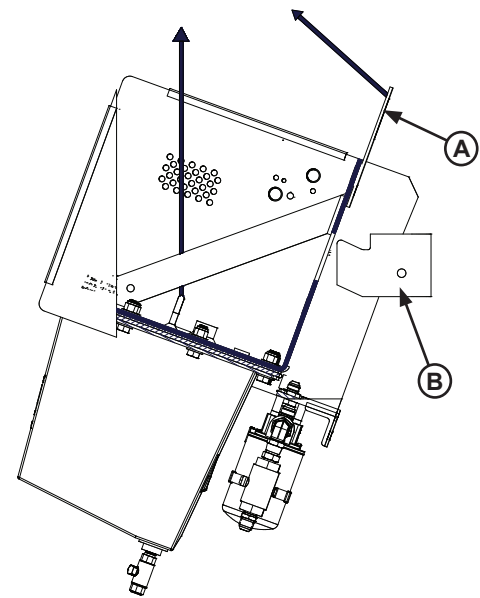

Figure 12
3. Lift pump station by the two lifting lugs (A), located in the center and rear of the CentraPower pump station. See Figure 12.
4. Tilt the CentraPower pump station to a 30° angle. This will allow the pump station to slide into the wall mount bracket (B) as shown in Figure 12.